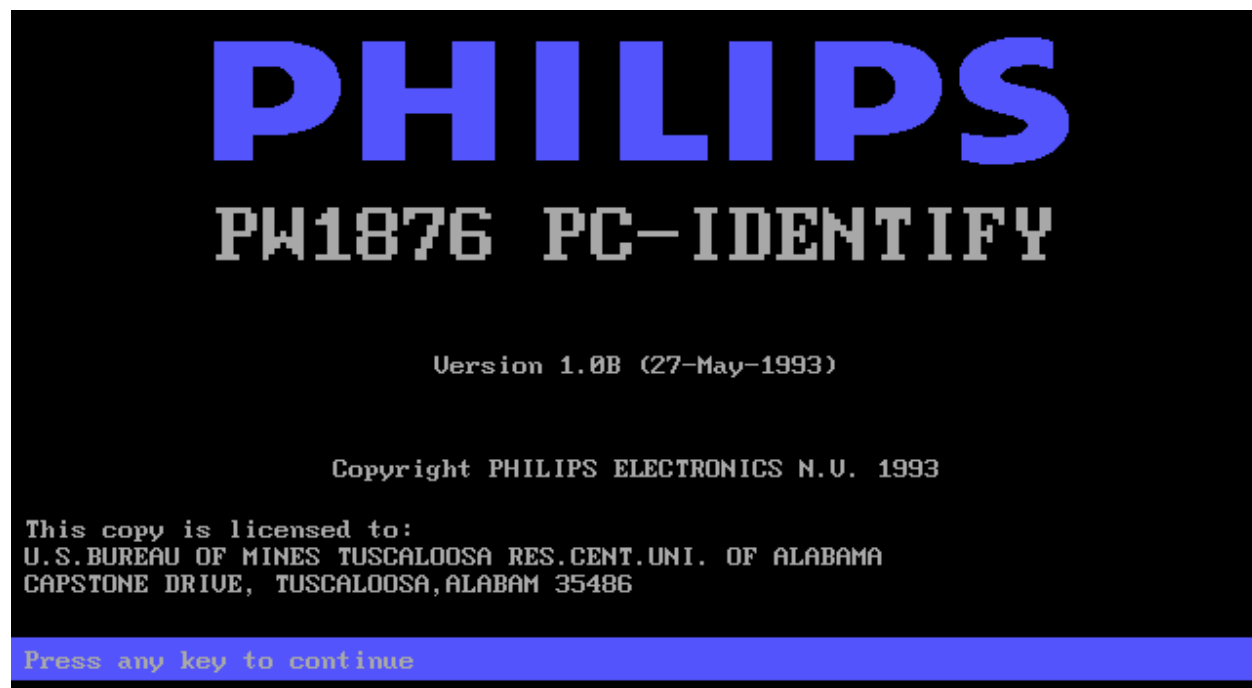

Figure 2. PC-IDENTIFY introduction screen.
16. Press ESC three times to return to the main menu then select EDIT (E) followed by DI FILE (D).
22. Double click the PC-IDENTIFY icon within the XRAY folder to open PC-IDENTIFY. You will be prompted with the PC-IDENTIFY introduction screen (Figure 2). Press any key.